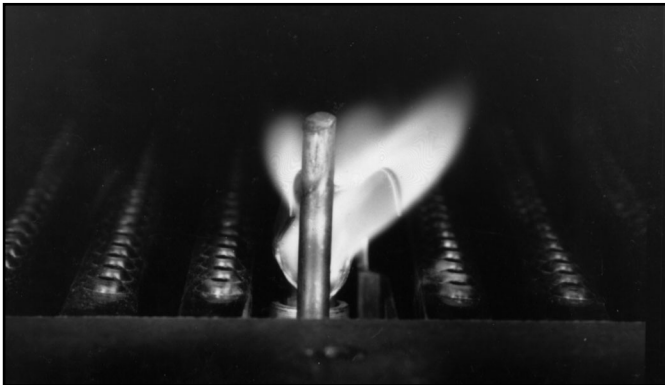

Figure 7. — Pilot Flame Pattern (Standard Burner)
- A. **BURNERS** — Visually inspect the main burner flame and the pilot flame at least every three months. Refer to Figures 7, 8, 9, or 10